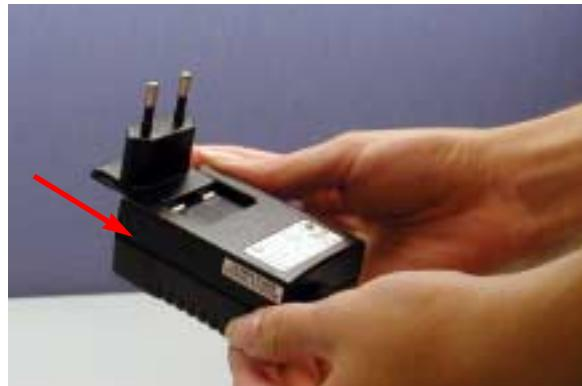

Figure 6. Inserting a New Plug Configuration
4. Push the new plug configuration down until it snaps into place (Figure 6).